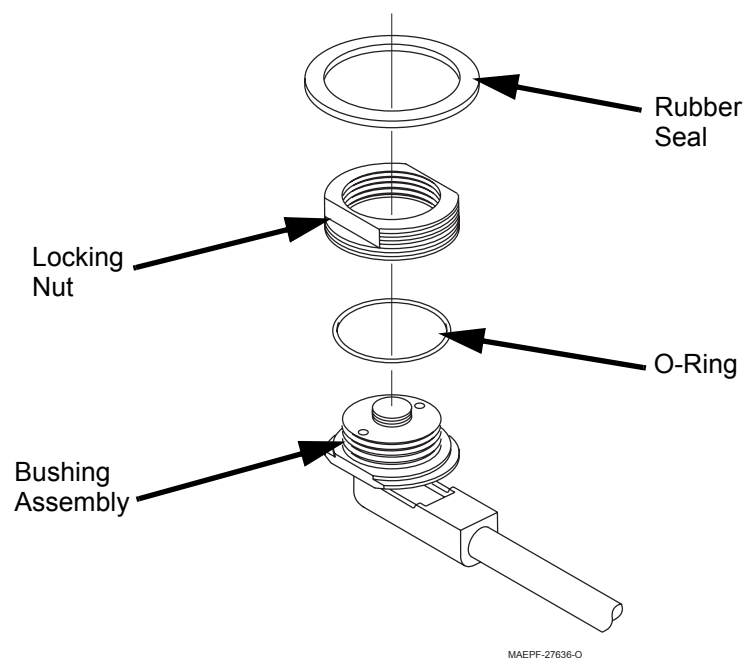

Figure 2. Bushing Assembly Parts
- Refer to Figure 2 on page 5. Apply a generous amount of silicone grease (supplied) to the inner and outer threads of the locking nut. In addition, be sure to apply some silicone grease to the rubber "O" ring washer and the groove in the locking nut in which the "O" ring washer is seated.
13. Apply silicone grease to the weatherproof rubber seal (see Figure 2).